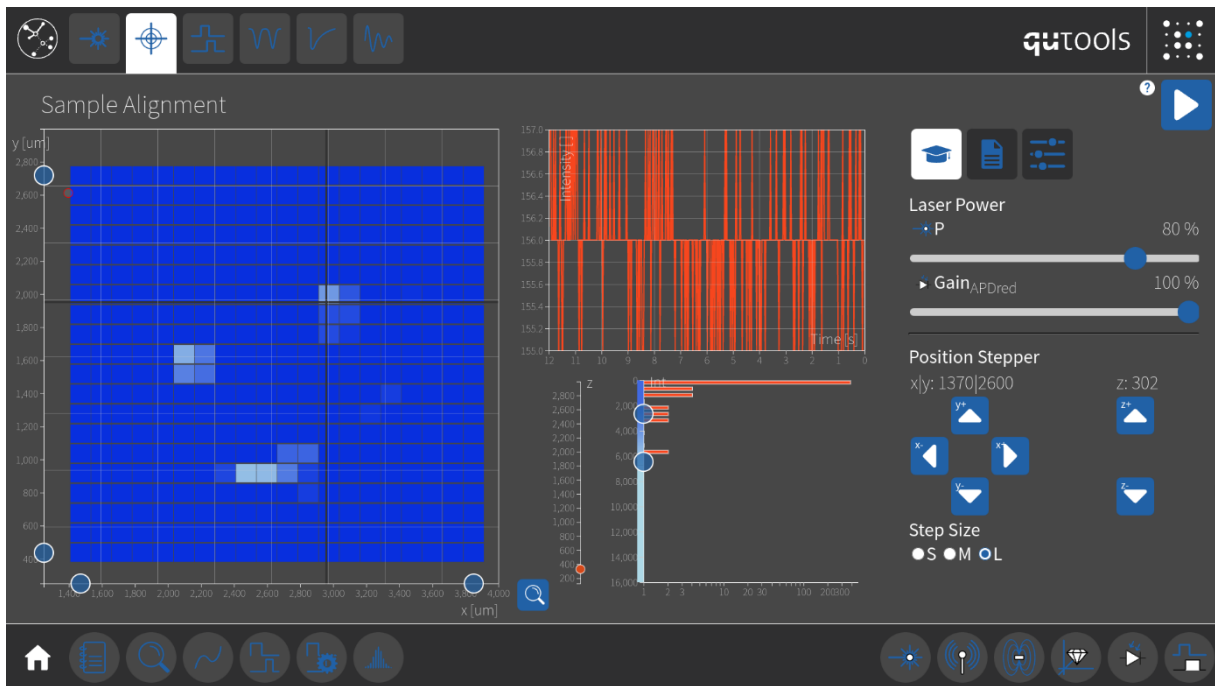

Figure 7 – A wide area scan shows the position of the three diamonds.
- You will see lighter areas in the scan plot and a histogram of intensity values to the right of it. By adjusting the two control circles on the histogram plot, you can change the color coding for the scan plot to resolve intensities better, see Figure 7.